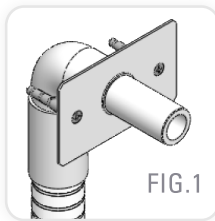

FIG.1
4. Mount the D28 base to the opening cut in the wall, and set it using the two small anchors provided. (See FIG. 1)